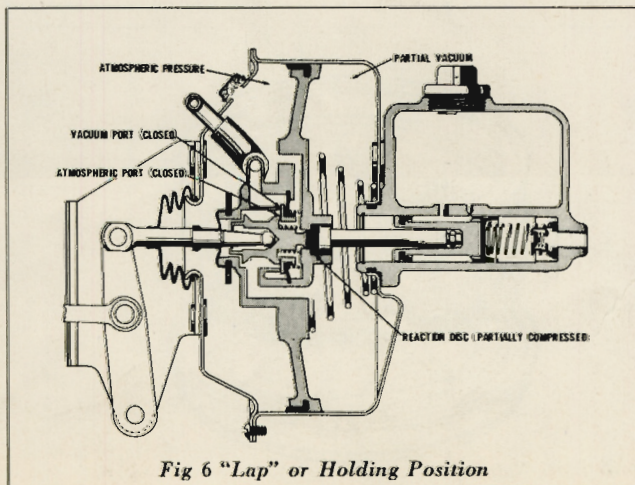

Fig. 6 "Lap" or Holding Position
"Lap" or Holding, See Fig. 6
5 Apply a light coating of Rykon "0" Grease to the piston end of the hydraulic push-rod (3) and guide piston end of push-rod into center bore of front piston plate. Twist push-rod to make certain piston end is bottomed against reaction disc and there is no air pocket between push-rod and reaction disc. NOTE: Before proceeding, check the distance "A" from the end of the push-rod to the hydraulic cylinder mounting surface at the end of the vacuum cylinder. This dimension "A" Fig. 6 should be as follows: